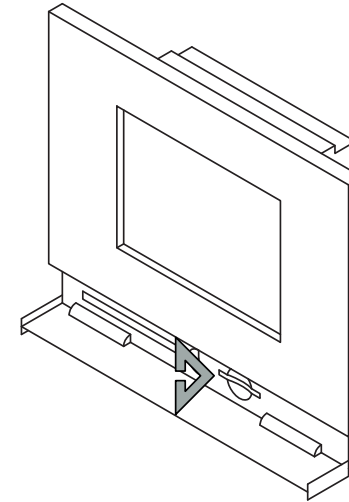

Fig. 69
2. Insert the SD card into the room/control panel and press the "Read Multimedia/SD card" button (Fig. 69).